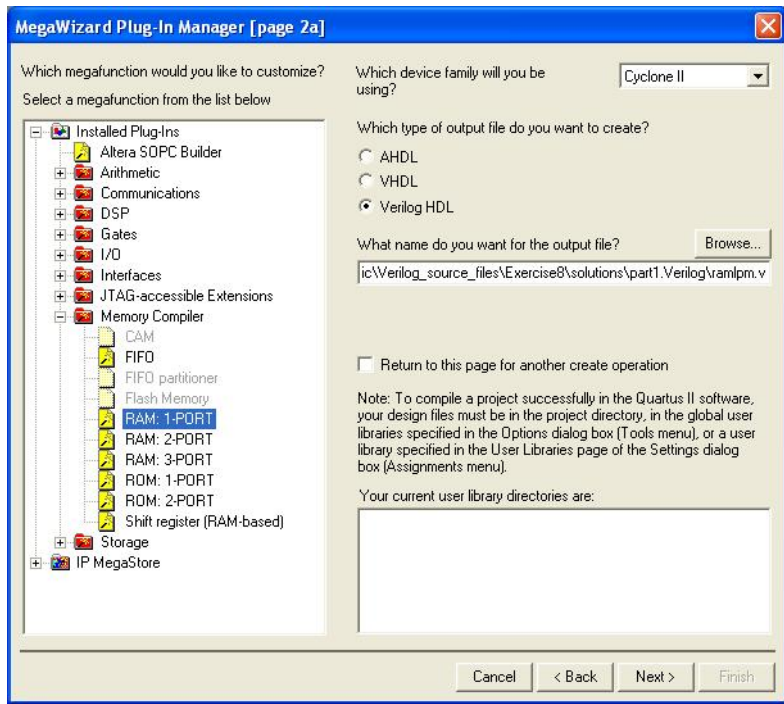
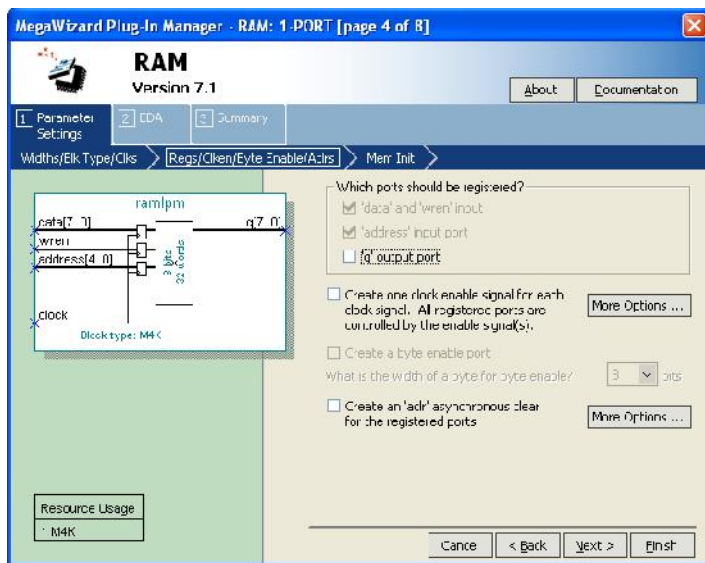

Figure 2. Choosing the *RAM*: *1-PORT* LPM.
Figure 3. Configuring input and output ports on the *RAM: 1-PORT LPM*.
2. You can learn how the MegaWizard Plug-in Manager is used to generate a desired LPM module by reading the tutorial *Using Library Modules in Verilog Designs*. This tutorial is provided in the University Program section of Altera’s web site. In the first screen of the MegaWizard Plug-in Manager choose the *RAM*: *1-PORT* LPM, which is found under the *Memory Compiler* category. As indicated in Figure 2, select Verilog HDL as the type of output file to create, and give the file the name *ramlpm.v*. On the next page of the Wizard specify a memory size of 32 eight-bit words, and select M4K as the type of RAM block. Accept the default settings to use a single clock for the RAM’s registers, and then advance to the page shown in Figure 3. On this page *deselect* the setting called ‘q’ output port under the category Which ports should be registered? This setting creates a RAM module that matches the structure in Figure 1b, with registered input ports and unregistered output ports. Accept defaults for the rest of the settings in the Wizard.